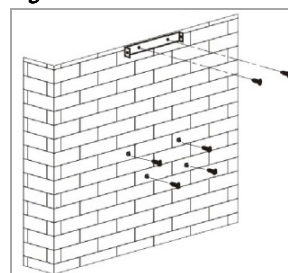

Fig. 2
- Before attaching the hood, affix the connecting piece with inserted non-return valves from the top of the extraction duct with the screws 2x ST4*8mm (*Fig. 2*).